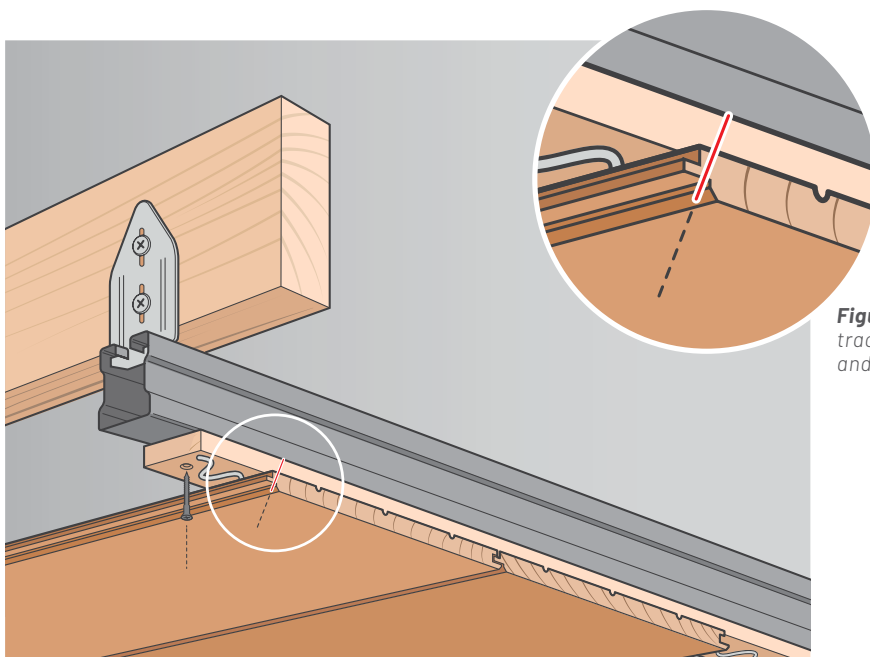

Figure 4: Panelling installation using metal track system / timber batten / secret nail and glue.
- For panelling that cannot use face fixing screws, it is necessary to securely scrow a timber batten to the bottom of a metal track, then proceed as per timber framing projects (see Figure 4).